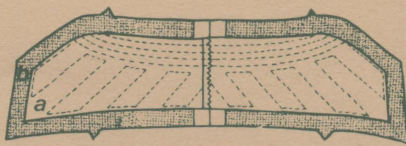

Figure 19. Machine padstitching the undercollar
- Use the presser foot as a guide and make parallel rows of stitching between the roll line and the neck edge about $\frac{1}{4}$ inch (6 mm) apart (Figure 19, see point A).
- Above the roll line, start at the center back and stitch diagonally following the grainline. Stitch parallel rows $\frac{1}{2}$ to $\frac{3}{4}$ inch (1.3 to 2 cm) apart, pivoting at end of rows (Figure 19, see point B).